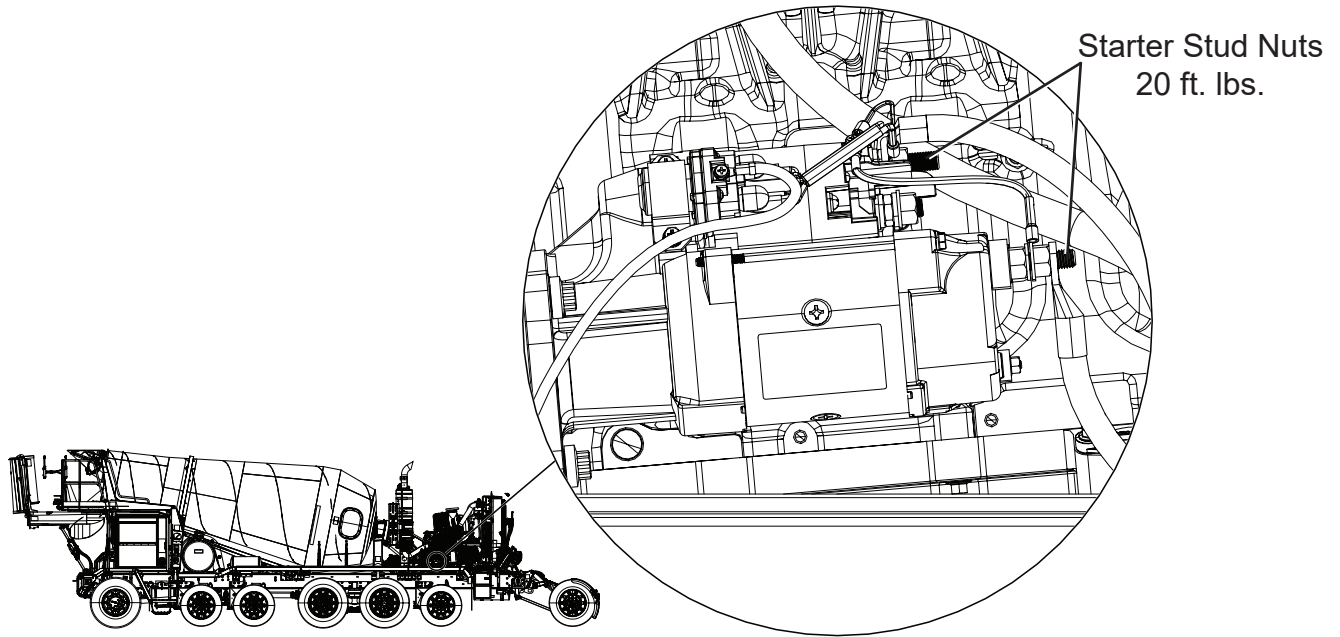

Figure 5
7. Check the positive (+) and negative (-) starter stud nuts torque, see Figure 5.